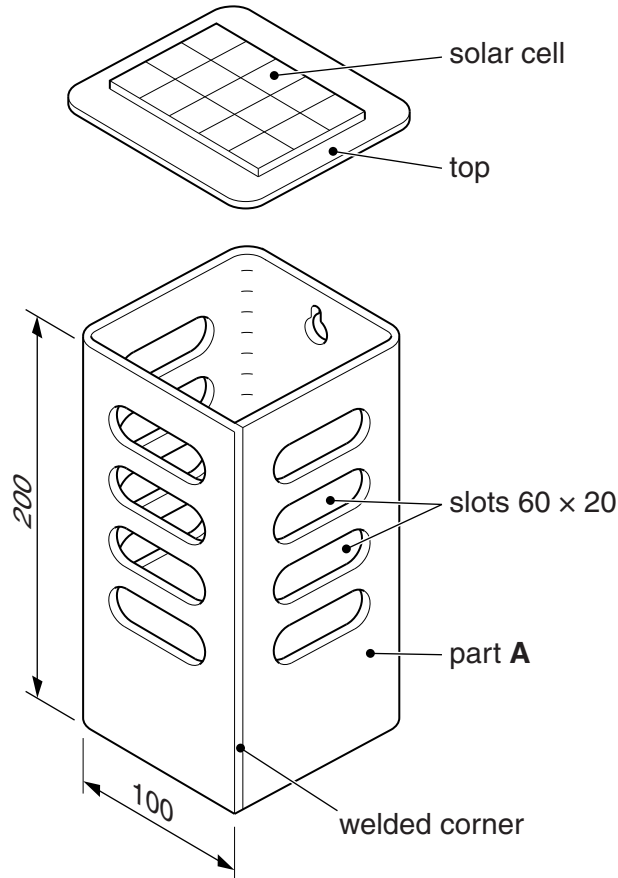

Fig. 1
- 1 Fig. 1 shows an incomplete design for a solar powered outdoor light which is to be made in a school workshop. The light will be hung on a wall.